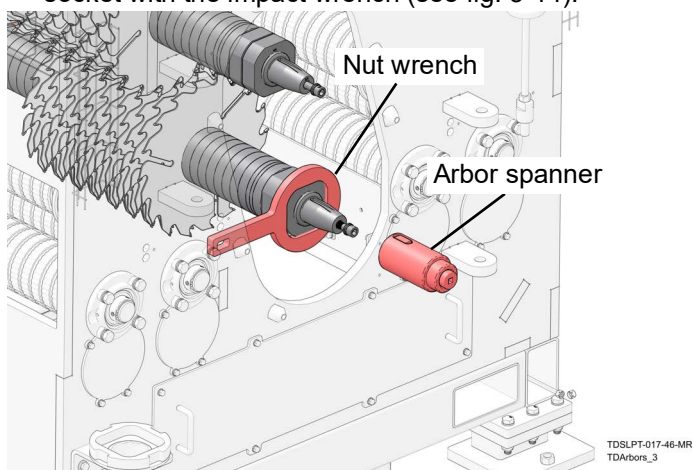
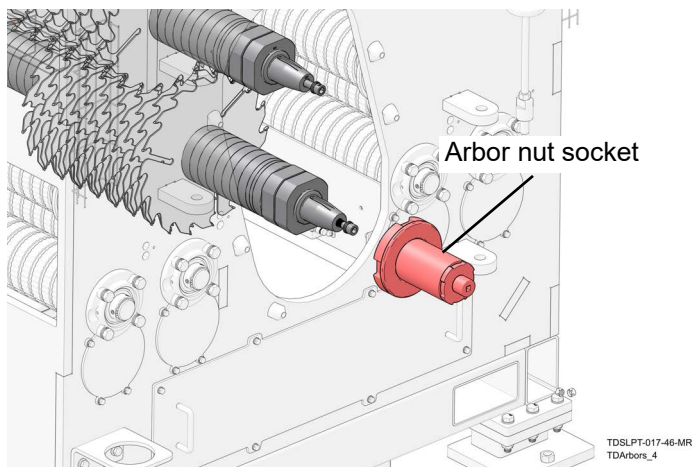

FIG. 3-13
FIG. 3-14
5. Loosen the arbors with the nut wrench, arbor spanner and a 1/2in drive, (see fig. 3-13) or use the arbor nut socket with the impact wrench (see fig. 3-14).